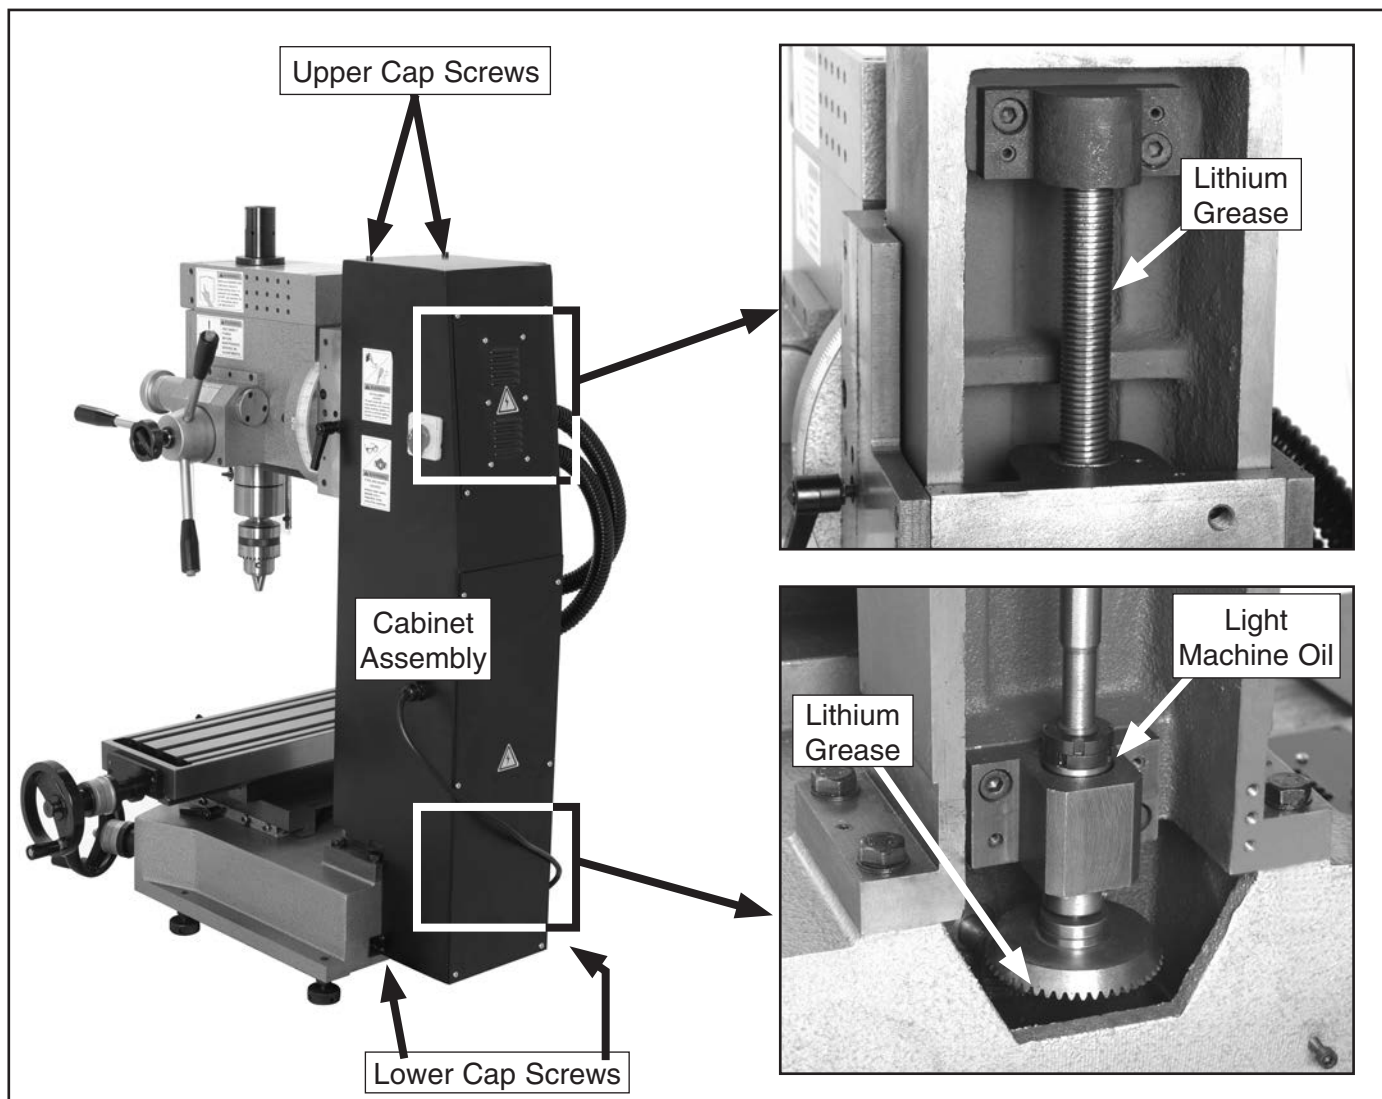

Figure 38. Headstock leadscrew access and lubrication.
2. Use the hex wrench to remove the two lower cap screws from the cabinet assembly (see **Figure 38**).
3. Hold the cabinet assembly, and remove the two upper cap screws (see **Figure 38**).
6. Paint the headstock leadscrew and gear teeth with lithium grease, and oil the bearings as outlined in **Figure 38**.